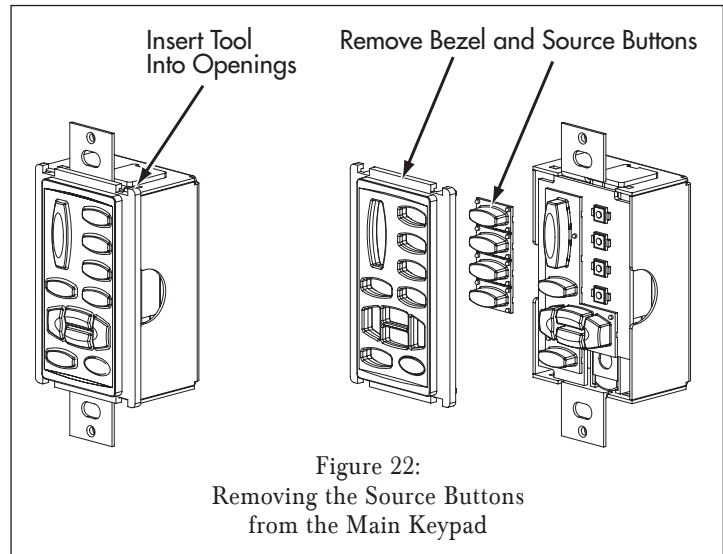

Figure 22:
2. Use a screwdriver or similar tool to release the keypad bezel tabs (see *Figure 22*).
3. Remove the keypad bezel and SOURCE buttons from the keypad as shown in *Figure 22*.